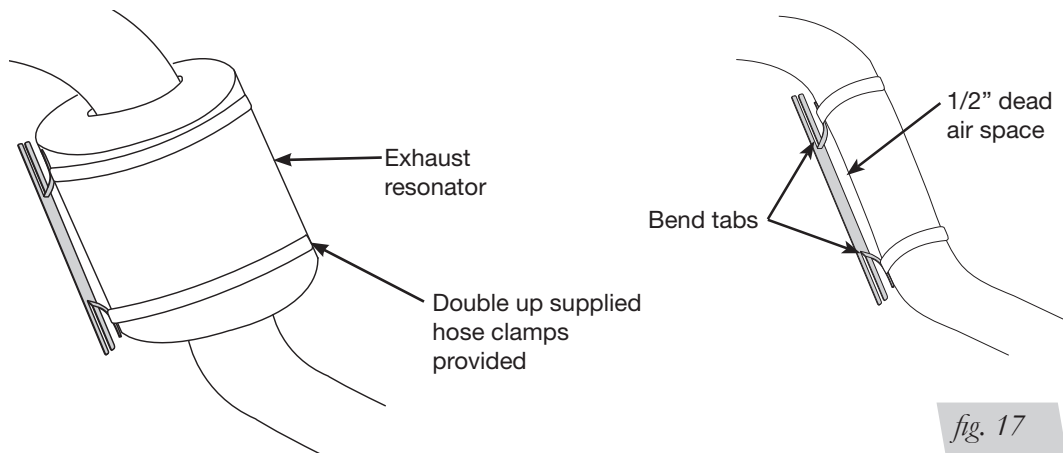

fig. 17
- Bend tabs to provide a dead air space between exhaust pipe and heat shield. (Fig. 17) Attach the heat shield to the exhaust pipe using the clamps. Bend the heat shield for maximum clearance to the air spring.
*Some vehicles have large resonators in this area; it will be necessary to double up on the clamps to fit these models (Fig. 17).*